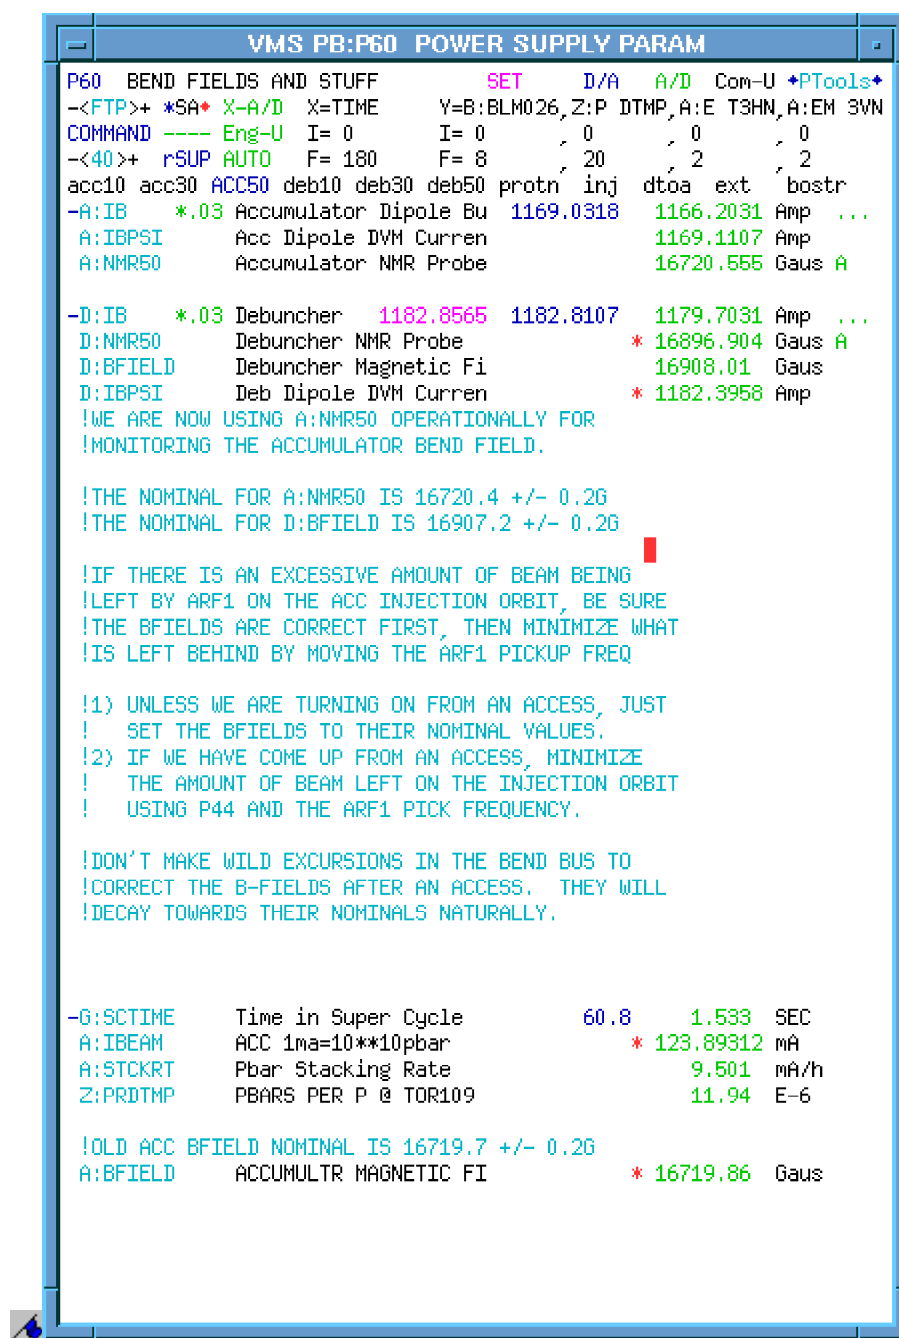

Figure 15: P60 ACC50 <40>. Knob the Debuncher bend bus in small steps using the + and - knob buttons on the console.
3. Open page P60 ACC50 <40> as shown in Figure 15.